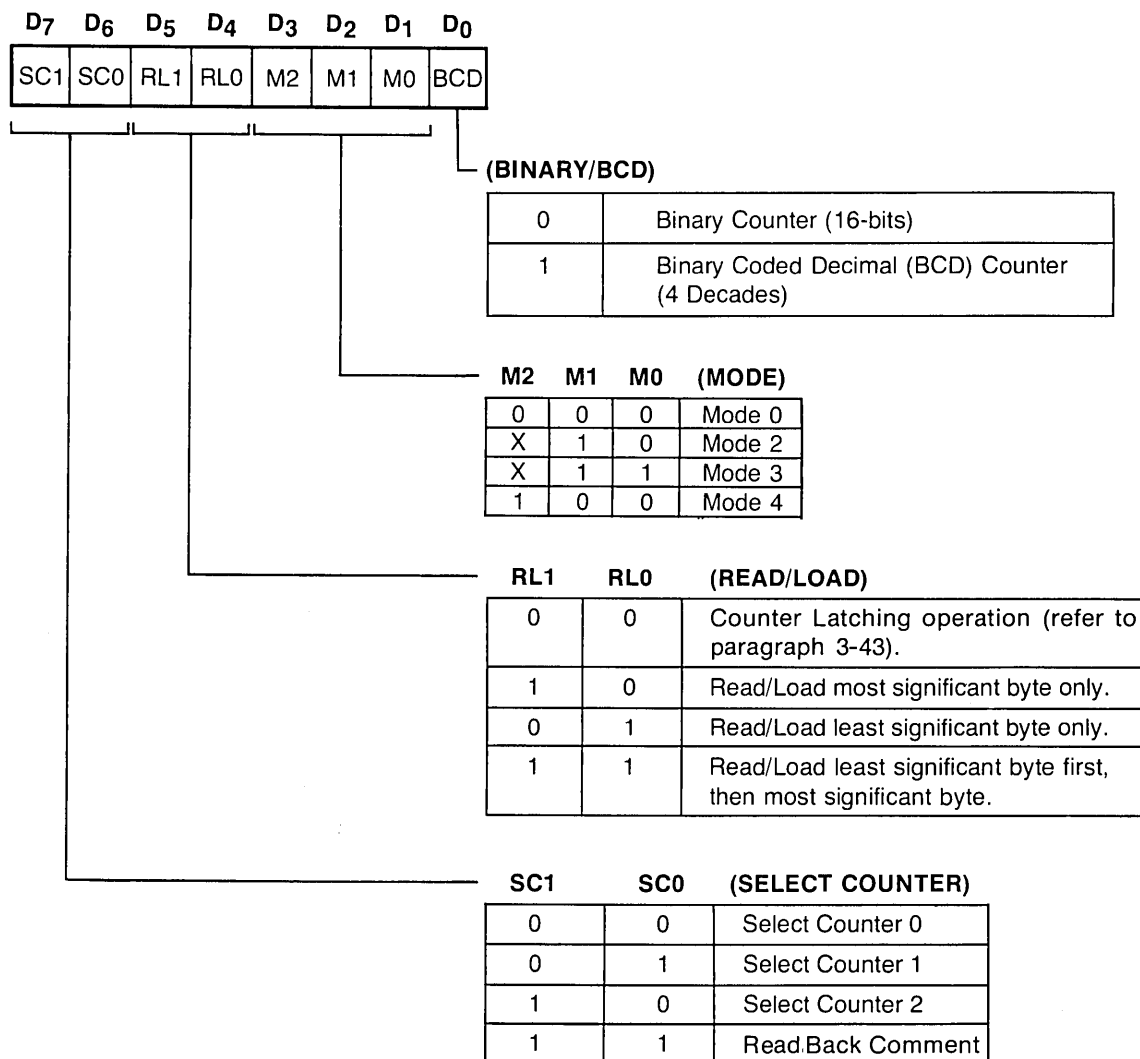

Figure 3-7. PIT Control Word Format
- A mode control word (Figure 3-7) is written to the Control register for each individual counter.
The mode control word (Figure 3-7) does the following:
The count mode selected in the control word controls the counter output. As mentioned earlier, Counter 0 and Counter 1 on the iSBX 352 board are dedicated to providing clocks for the 8273 device, the counters must be initialized in the square wave generator mode of operation (Mode 3). Counter 2 can be programmed to operate in any desired mode. As shown in Figure 3-7, Counter 2 in the PIT can operate in four of six possible modes, as follows:
- a. Write a mode control word for Counter 0 to I/O port address base+3. Note that all mode control words are written to base+3, since the mode control word must specify which counter is being programmed. (Refer to Figure 3-7.)